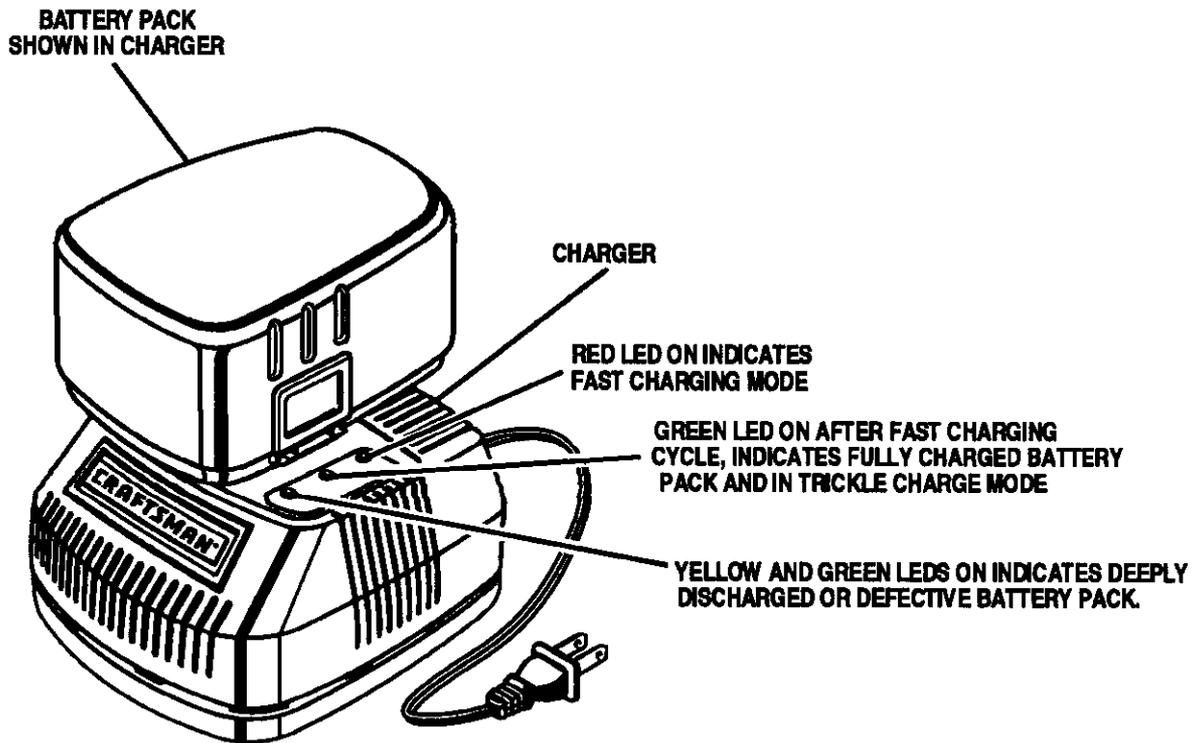

Fig. 2
See Figure 2.
- Place battery pack in charger aligning raised rib on battery pack with groove in charger. See Figure 2.